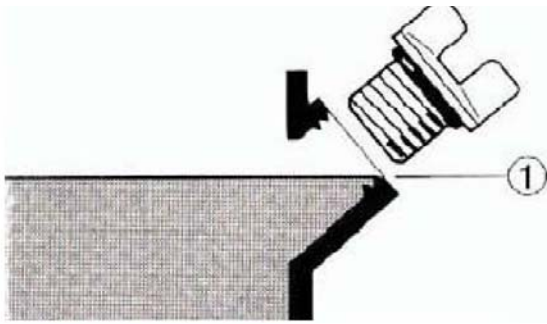

Fig. 11: Check oil level
Step 3: Wait until the oil has completely run into the container and the level has adjusted. Then check the correct oil level (1, Fig. 11).